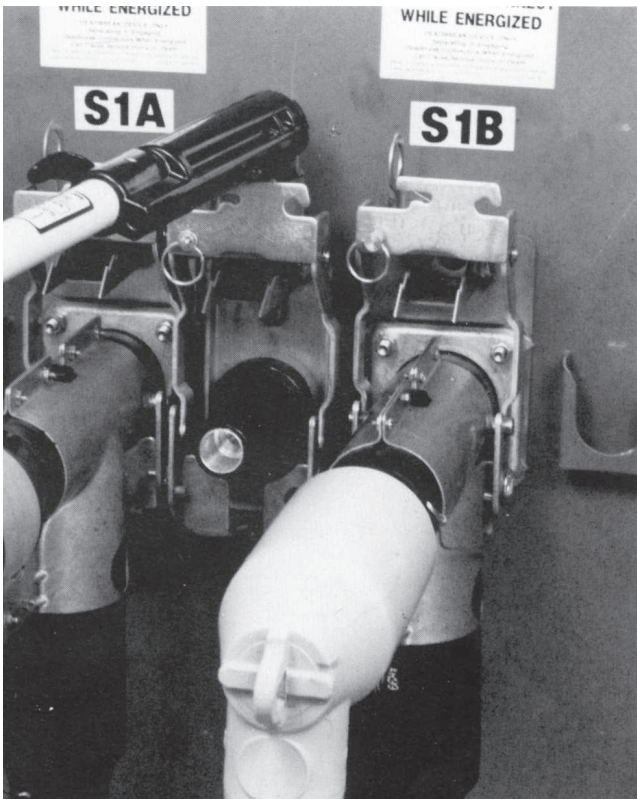

Figure 7. Mount PUSH-OP standoff bushing.
- Mount PUSH-OP insulated standoff bushing in the apparatus parking pocket using a hotstick. Tighten eyebolt to ensure secure mounting. Ensure that PUSH-OP bail bracket on the insulated standoff bushing is unlatched. Refer to Figure 7.